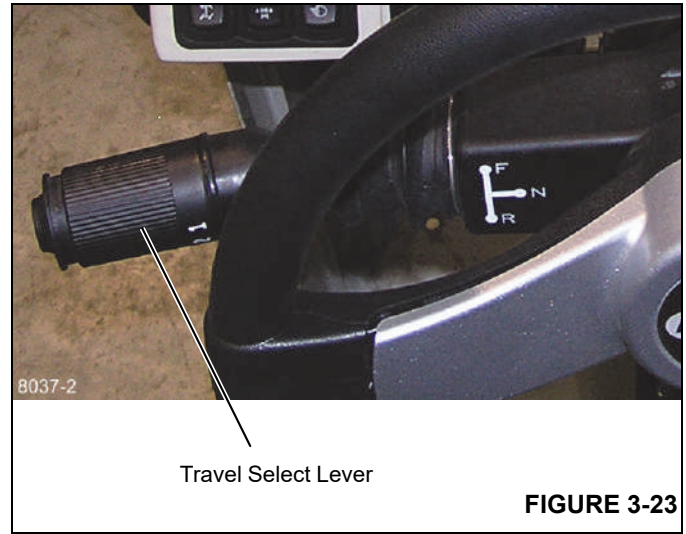

FIGURE 3-23
4. Place the travel select lever (Figure 3-23) in the neutral (N) position.